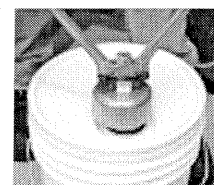

FIGURE 4
2. Place a Rieke Model FS-600 crimping tool over the fitment and simultaneously depress both handles. (fig. 4 & 5)